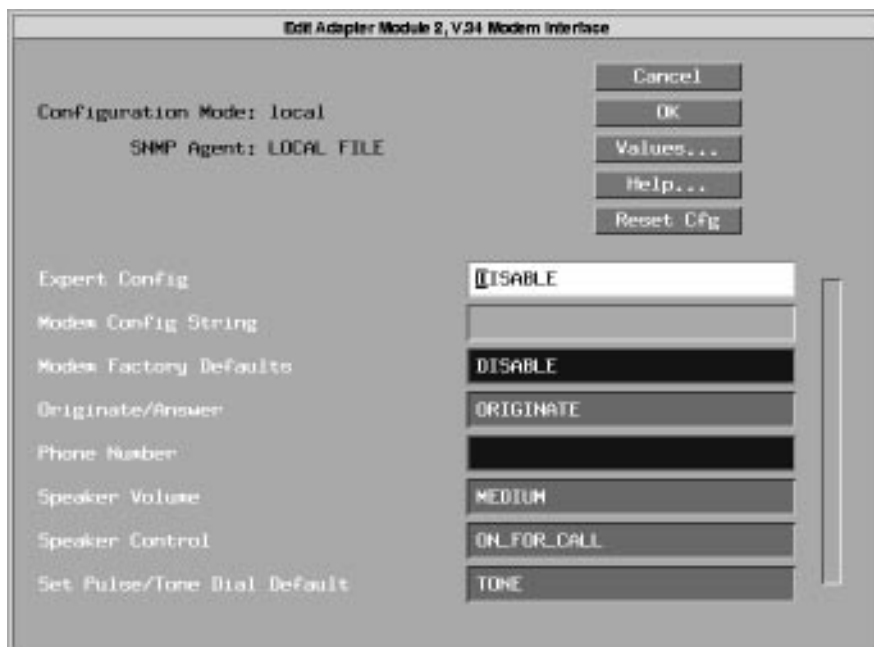

Figure 11. Edit V.34 Modem Interface Parameters
The Edit Adapter Module V.34 Modem Interface window appears (Figure 11).
1. **In the Edit Adapter Module V.34 Modem Interface window (refer to Figure 11), set the Expert Config parameter to Enabled.**